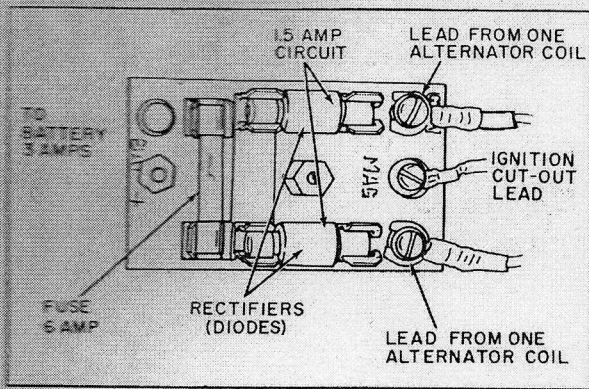

Figure 10
4. The 3 amp rectifier system is readily identifiable by the rectifier panel in the circuit, Figure 10. The panel includes two diodes (rectifiers) and a fuse for overload protection. If an overcharge condition exists, one diode (rectifier) can be removed to cut charge rate in half.